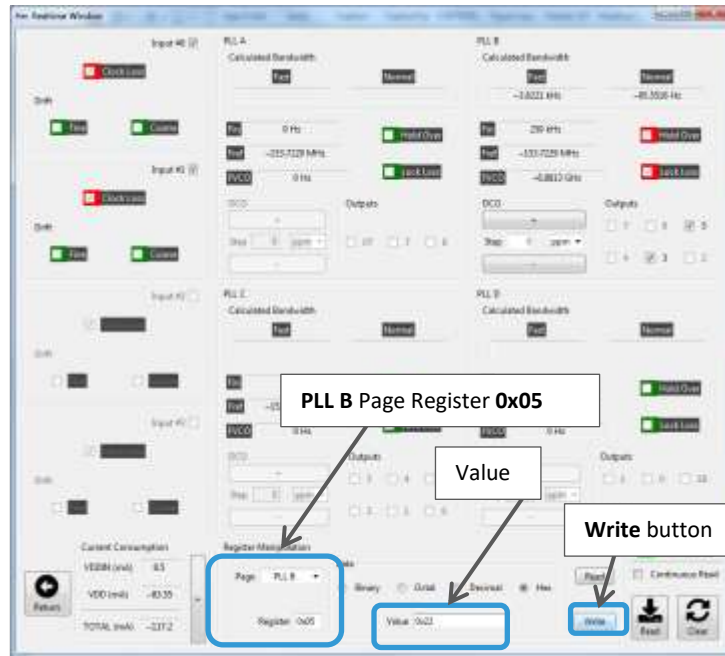

Figure 84: Write bit[1] high to the Page PLL B Register 0x05 of the SiT95148 to enable SYSREF
- a. Enable SYSREF on the selected output, set bit 1 high, see Figure 84.